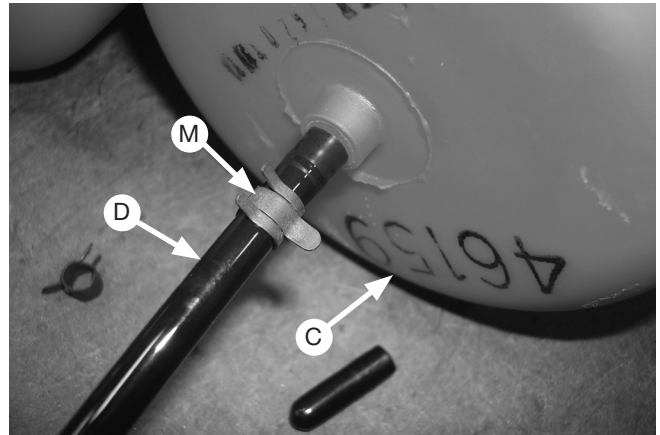

Fig. 5
2. Cut the air line (D) into two equal lengths. Using a pair of pliers, install the air line clamps (M) onto one end of each air line. Remove the plastic caps off the air springs (C) and install the air lines onto the barbed stem of the air springs making sure air line covers all the barbs on the stem. Slide the air line clamps over the barbed section of the stem on the air springs (Fig. 5).